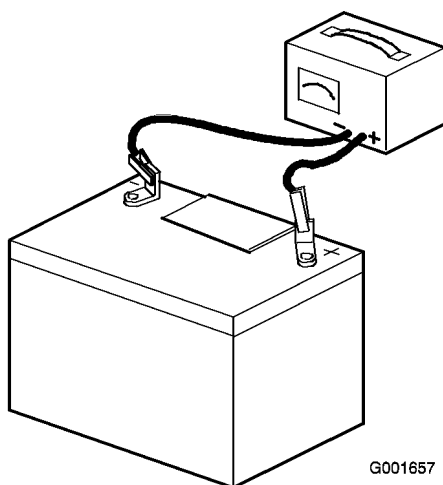

Figure 41
2. When the battery is fully charged, unplug the charger from the electrical outlet, then disconnect the charger leads from the battery posts (Figure 41).